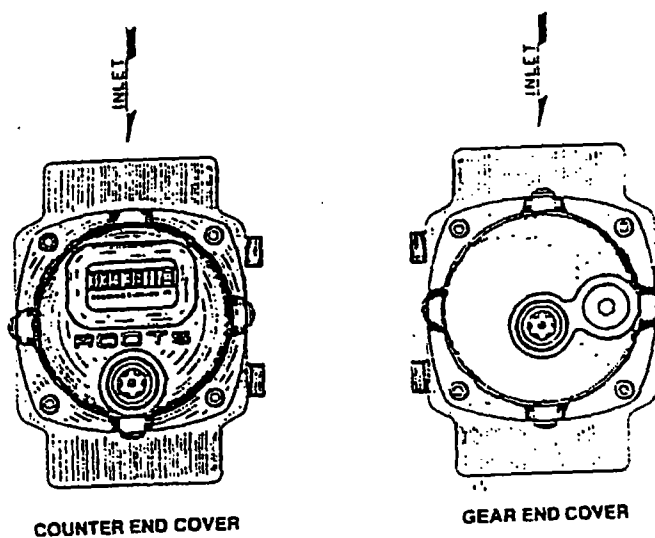

Figure 3—TOP INLET
Step 1—**Top Inlet** (reference Figure 3). The meter will have the nameplate and ¼ inch differential plugs on the right side of the cylinder when viewed from the counter end of the meter. The nameplate